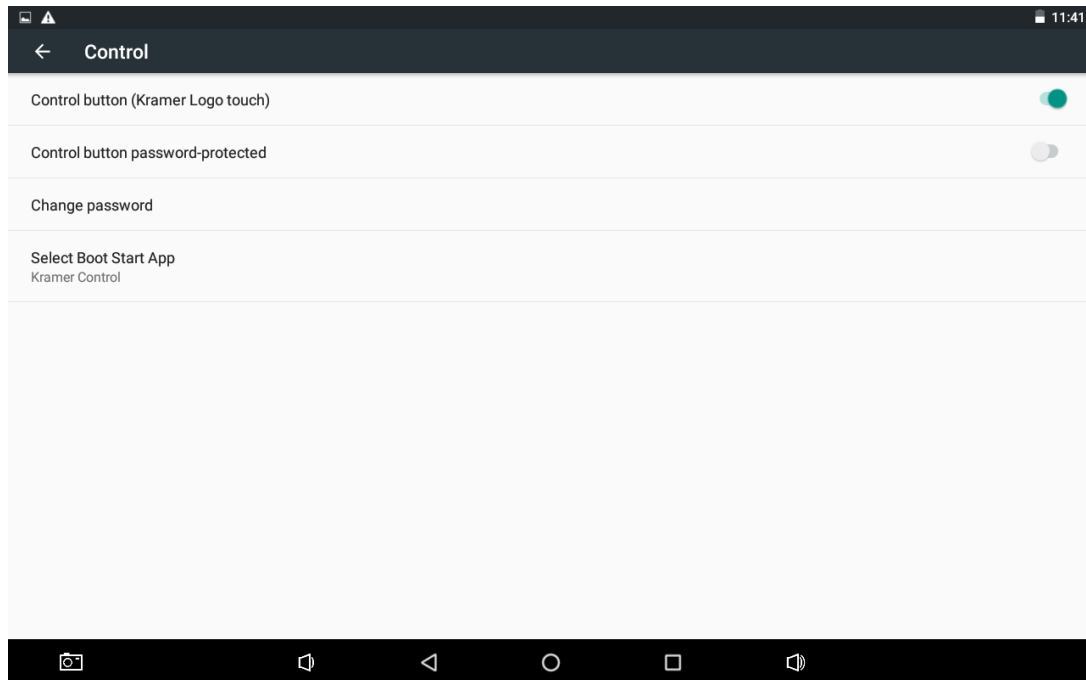

Figure 28: Control Button Activation
3. Click **Control button password protected** to enable or disable this feature (see Figure 28).